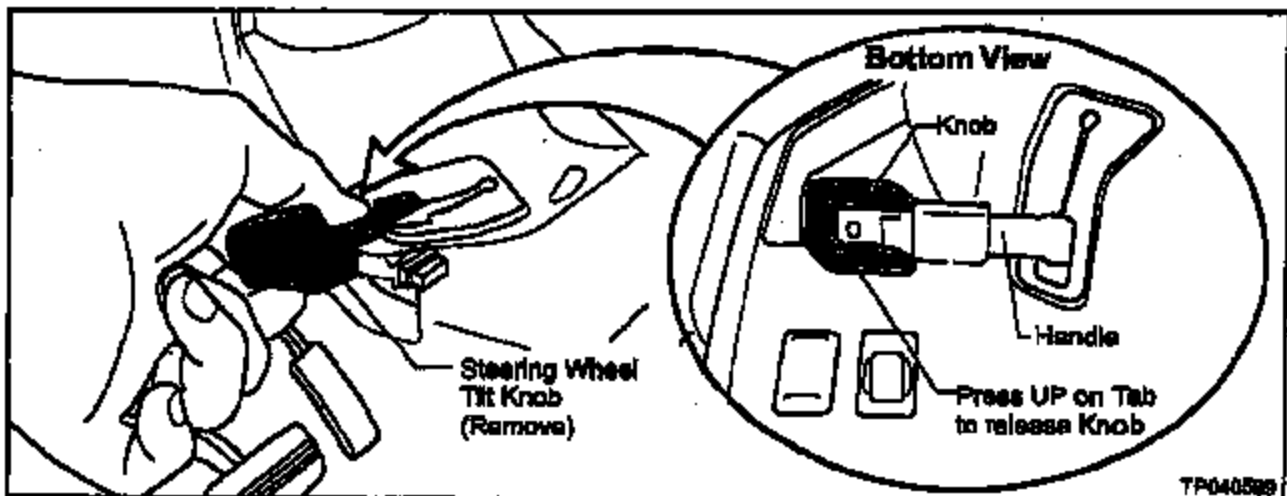

Figure 4
5. Remove the Steering Wheel Tilt Knob (see Figure 4).
- To remove the Knob, press UP on the Tab on the underside of the Knob until the Pin lifts out of the Handle hole (see Figure 4).